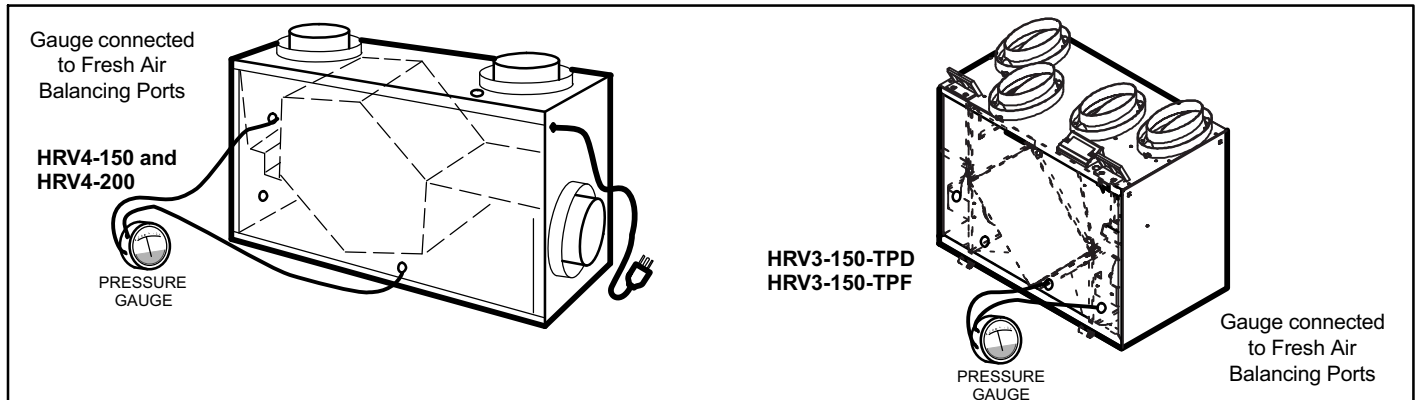

Figure 31. Door Balancing Ports—Fresh Air
6. **Measure Fresh air**—Insert the 2 rubber fittings from the gauge to the FRESH AIR Balancing Ports (see figure 31). Seal the STALE AIR Balancing Ports (upper right and lower left) with tape. Record your reading.